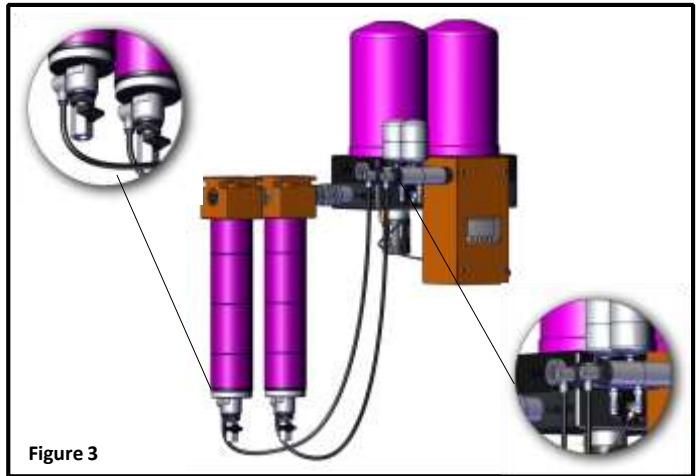

Figure 3
7. Connect 1/4" black tubing from the Moisture Minder® drains to the strainers located on the bottom of each filter housing. *Figure 3*